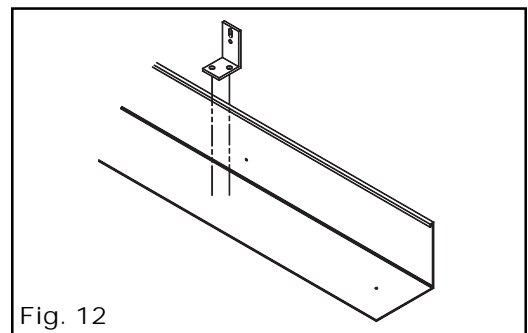

Fig. 12
11. Install tension brackets with tension loop onto lower end support as shown in (**Fig. 12**). Make sure tension loop is in fully extended position so that cable can be tensioned by tightening the tension nut.